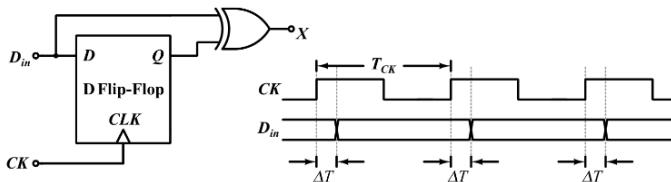

Fig. 5.30
31. In the circuit shown below in Fig. 5.30 a positive edge-triggered D flip-flop is used for sampling input data using clock CK. The XOR gate outputs 3.3 volts for logic HIGH and 0 volts for logic LOW levels. The data bit and clock periods are equal and the value of  $\Delta T/T_{ck} = 0.15$ , where the parameters  $\Delta T$  and  $T_{ck}$  are shown in the figure. Assume that the Flip and the XOR gate are ideal.